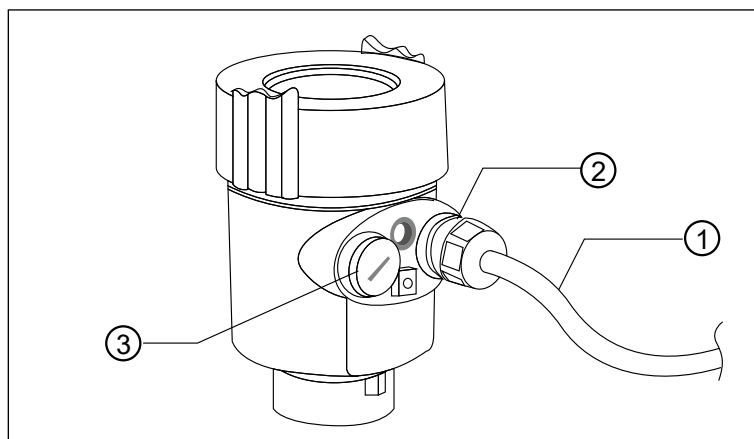

Fig 15: Protection Level
- Please ensure the water resistance of cable sealing head as shown in figure 15: